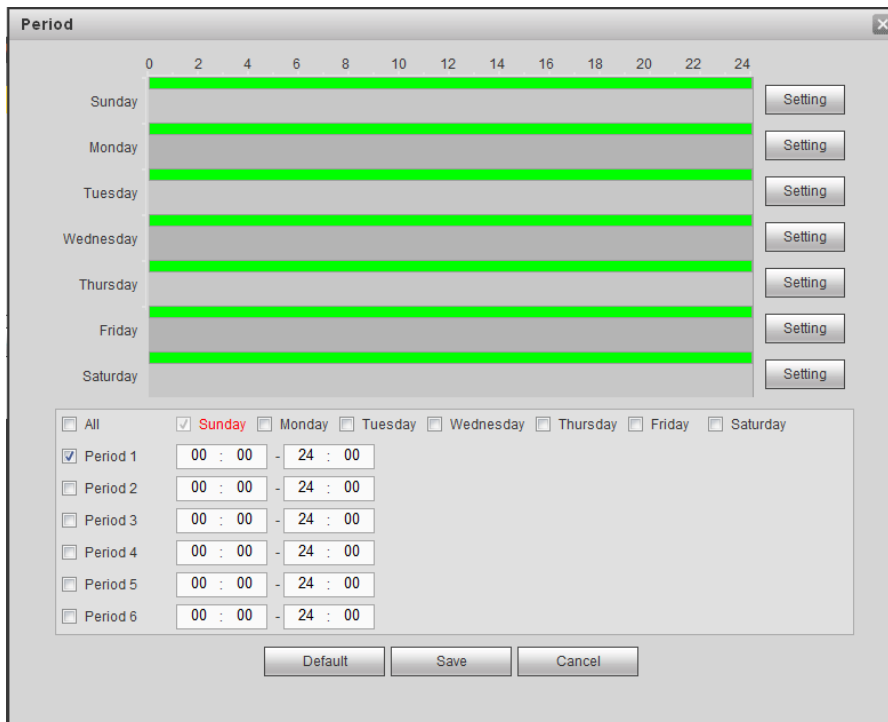

Figure 5-154
Step 3 Click the Set button after the period. It is to set valid period to use current account. See Figure 5-154.